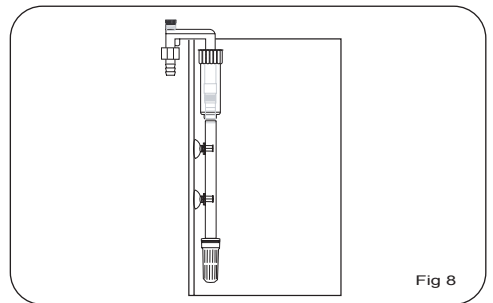

Fig 8
10. The O-ring is placed in position during assembly. You will notice that it is lubricated. This lubrication allows the head unit to go on easily, ensures a good water tight seal and makes removing the head unit easier when maintenance is required. **IT IS VERY IMPORTANT THAT ANY TIME THE FILTER IS DISASSEMBLED THE O-RING BE LUBRICATED USING AN AQUARIUM SAFE LUBRICANT.** Fig 8
12. Install the inlet first. (One with the Strainer) Place it into the aquarium, stick it to the glass with the Suction Cups on the intake pipe. Fig 8